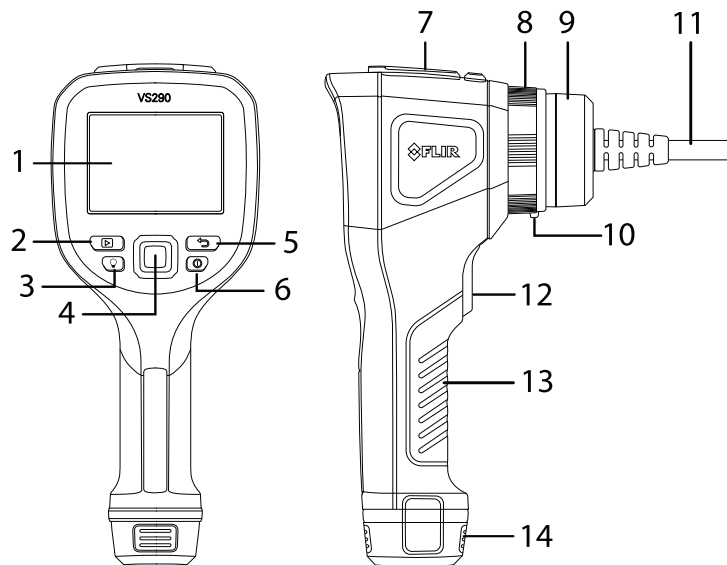

Figure 4.1 VS290-00 Videoscope Description
Note that the release tab (item no. 10 in Figure 4.1) must be pushed to release a probe from the Videoscope display when removing it.
2. If the probe is purchased separately from the Videoscope Display, please connect the probe to the Videoscope Display before proceeding. Ensure that the VS290-00 is powered off before attaching or removing a probe. Note that the release tab (item no. 10 in Figure 4.1) must be pushed to release a probe from the Videoscope display when removing it.